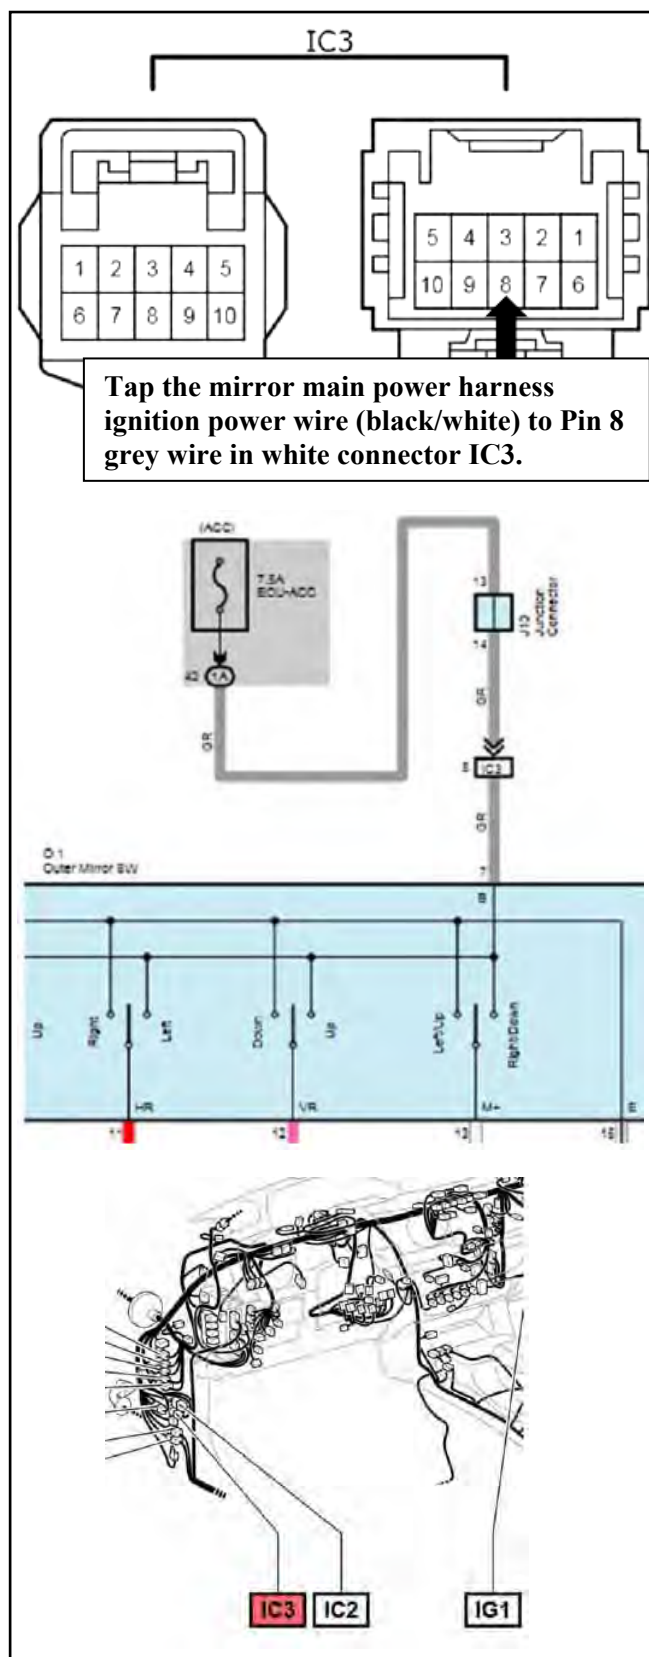

Figure 19a
19. Locate vehicle white connector IC3 in the LH kick panel. Disconnect connector. T-Tap the mirror main power harness ignition power wire (black/white) to Pin 8 grey wire in white connector IC3. See Figure 19a and 19b.